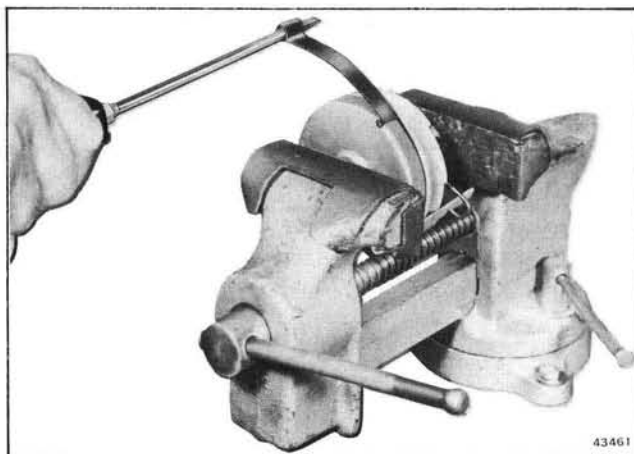

Figure 8-9. Pulling Spring From Cup
2. Clamp starter in a vise locating the mounting screw between the vise jaws. See Figure 8-9. Engage spring loop with a screwdriver, and pull spring out of cup until fully unwound. See Figure 8-9.